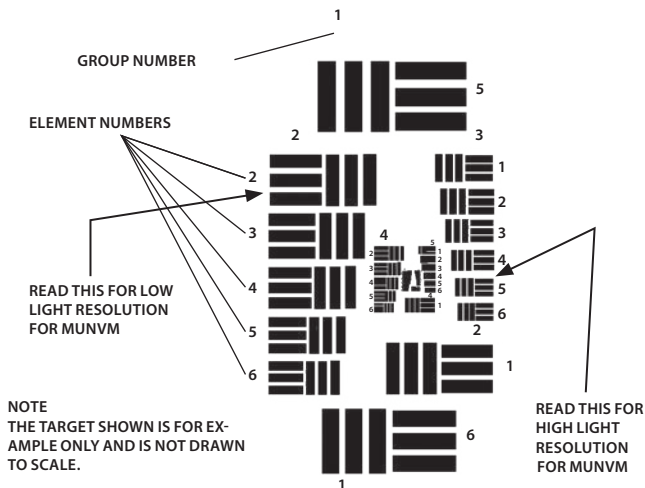

Figure 3-2. TS-4348/UV Test Set Pattern
(1) Set the HIGH/ LOW switch on the test set to LOW.
(2) Turn off the room light and let your eyes adjust to the dark.
(3) Turn on the test set by setting the “II/ OFF/ III” switch to “III.”
(4) Turn on the monocular and insert it into the test port on the test set.
(5) Look through the monocular and view the projected pattern (see Figure 3-2). If necessary, focus the eyepiece lens and then the objective lens to obtain the sharpest image.
(6) To pass the test, the MUNVM monocular must be able to resolve Group 2, Element 2, under low light conditions. If the MUNVM does not pass the test, please contact Customer Support, as you will need to return the device for repair. The operator must document resolution failures on the maintenance record.
(7) Flip the HIGH/ LOW switch to HIGH.
(8) Look through the monocular and view the projected pattern (see Figure 3-2). If necessary, refocus